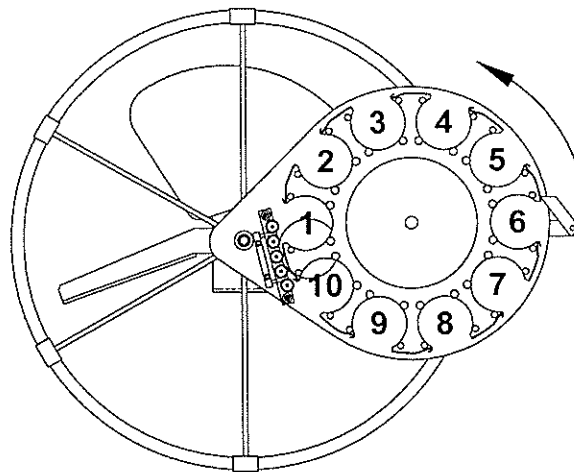

FIGURE 8 - LOADING THE MAGAZINE
10. If everything functions satisfactorily, **uncock the trap** by safely releasing the throwing arm, then **turn the power off** and proceed to load the magazine (see figure 8). The magazine holds ten columns of thirty targets each for a total of 300 targets. Load the columns in one of the two following ways: